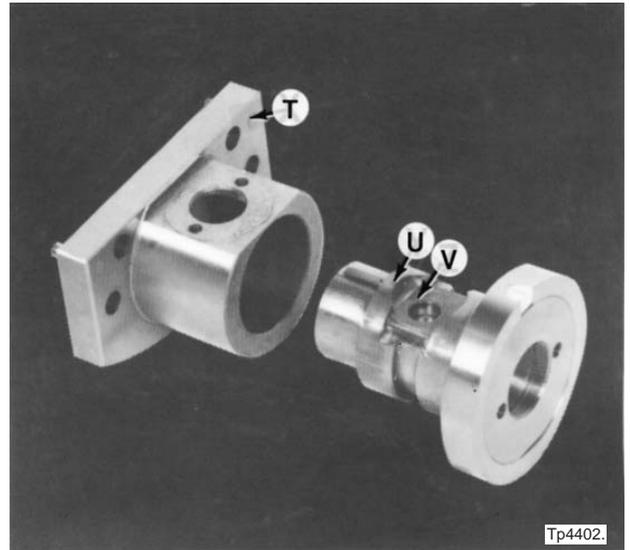

Figure 2.20 - End Cap and Bearing Housing
- n) Remove end cap "T" from housing "U", Figure 2.20 .
The hole in block "V" is located off center and should be positioned left of center, as viewed in Figure 2.20 .
- a) Coat block "V", Figure 2.20, with Die Makers Grease and replace as shown.